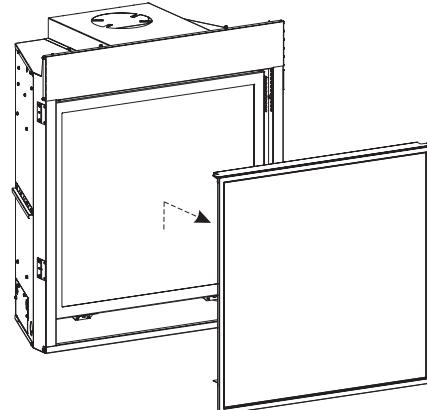

Figure 4
- Turn off power and gas. Lift barrier screen and pull away from the unit. **See Figure 4.**
23. Replace barrier screen removed in step 1. **See Figure 4.**